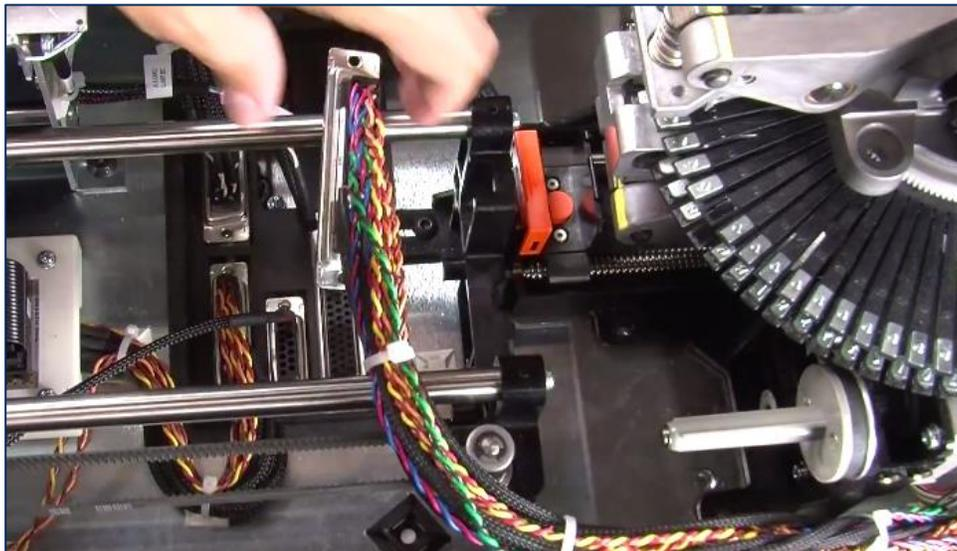

Figure 3-3 - Safe Removal Position for Embosser Cable (TOP VIEW FROM LEFT)
- 3) Re-route the embosser cable so the connector rests on top of the XY transport rails, as shown in **Figure 3-3**.